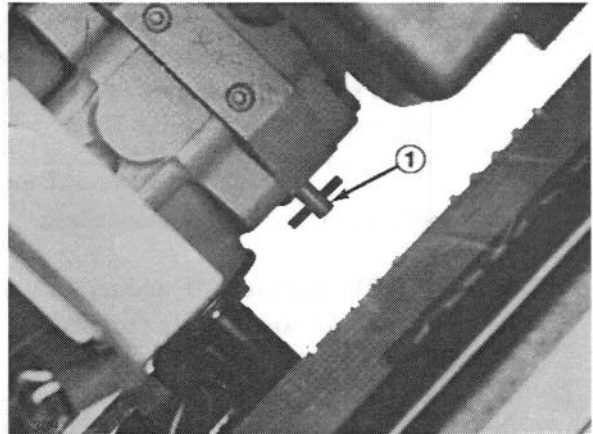

Figure 14
1. Reach under the traction unit and turn the by-pass valve (Fig. 14) $\frac{1}{2}$ to 1 turn counterclockwise. Opening the valve opens an internal passage in the transmission, thereby bypassing the transmission oil. Because fluid is by-passed, the traction unit can be moved without damaging the transmission.